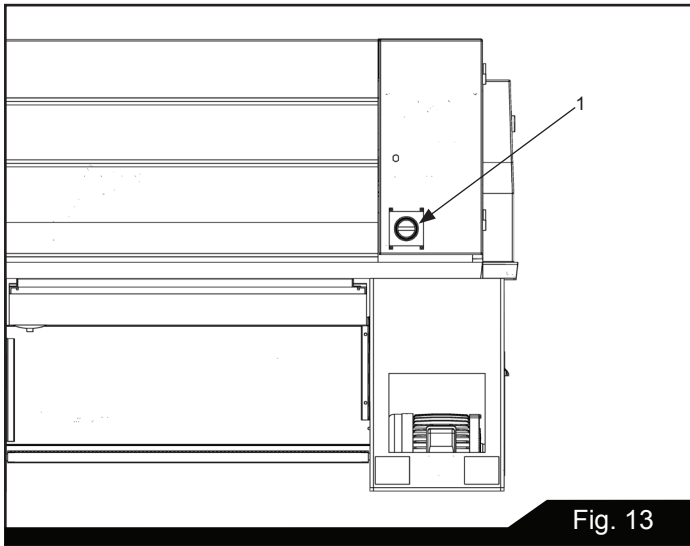

Fig. 13
- (1) **POWER SWITCH:** when the main power switch (1) on the electrical cover is turned on, the pilot lamp (2) glows and the electricity is on. (See Figure 13).
- (2) **POWER INDICATOR LIGHT:** When the power is on, the indicator light glows.
- (3) **EMERGENCY STOP SWITCH:** press the RED mushroom - head button to stop electric power, to stop the main motor and coolant pump.
- (4) **JOG BUTTON:** Press the GREEN button to move spindle slightly, it will make spindle speed selection very easy. (While the spindle rotation lever is set in the neutral position).
- (5) **VARIABLE SPEED SELECTORS:** adjusting spindle speed.
- (6) Spindle speed chart.
- (7) Coolant pump ON/OFF switch.
- (8) End cover switch: While operating open end cover door for adjustment or maintenance, it will stop automatically all rotation movements.